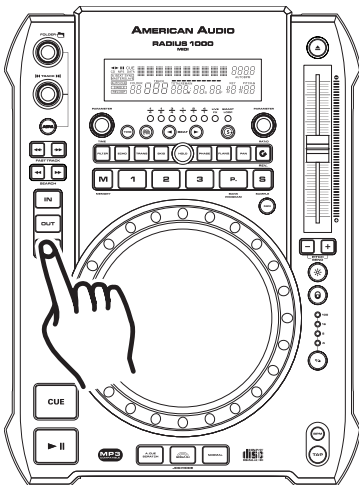

Figure 21
Please note: Only the ending point of the loop may be edited. You may make your loop shorter or longer. Before you can edit your seamless loop you obviously must first create a seamless loop to edit. If you haven't created a SEAMLESS LOOP, follow the instructions in step 10 to create a loop. If a SEAMLESS LOOP has already been created, press the *RELOOP BUTTON (15)* to activate your SEAMLESS LOOP (Figure 21) if it is not already activated. To edit your seamless loop's ending point: